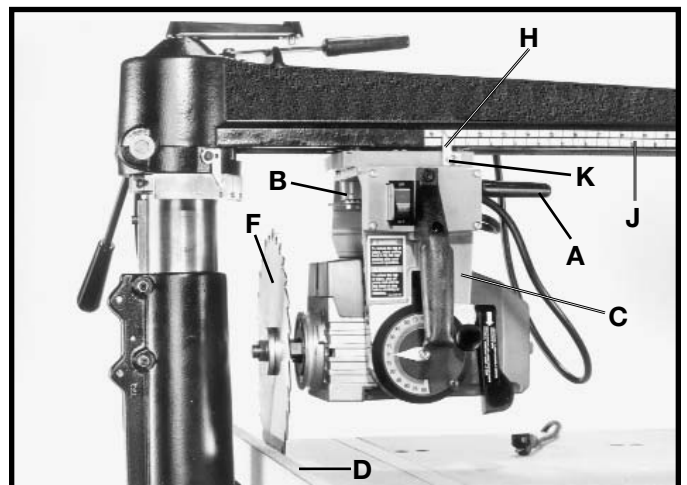
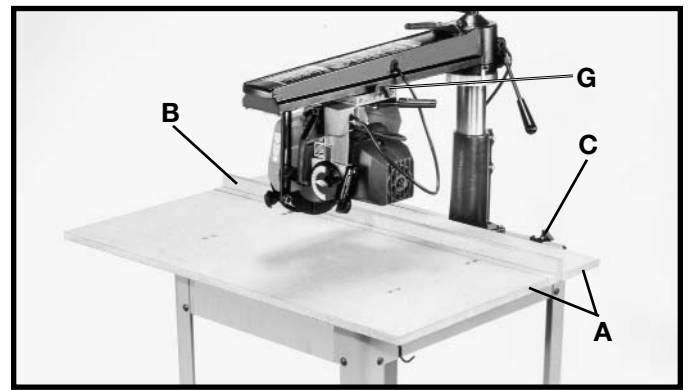
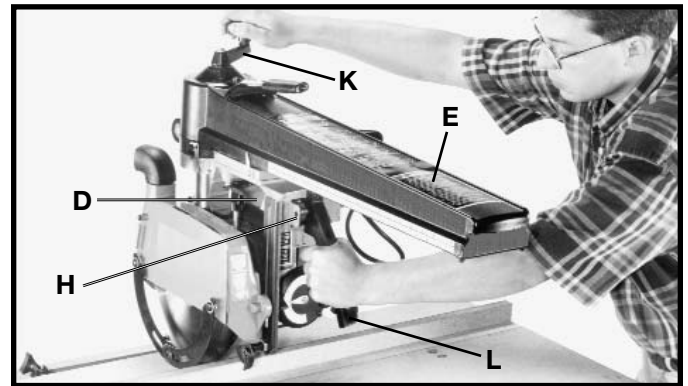
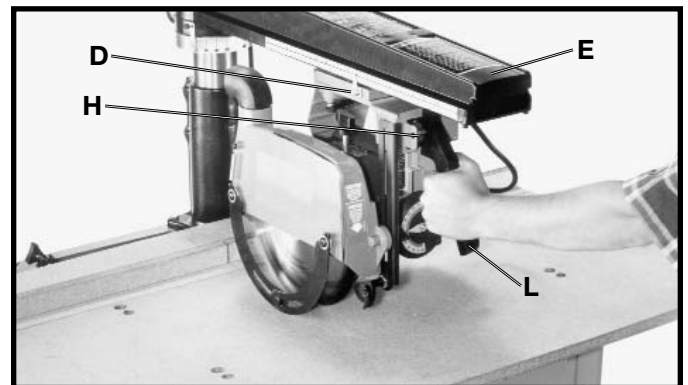

Fig. 43
Fig. 48
Fig. 49
Fig. 50
2. Loosen yoke clamp handle (A) Fig. 43. Release yoke index by pressing yoke indexing release lever (B) up or down, and rotating cutting-head (C) to the in-rip position as shown. Tighten yoke clamp lever (A).
3. Position fence (D) Fig. 43, at the rear of table as shown.
4. Loosen cutting-head clamp knob (G) Fig. 48 and slide cutting-head (C) Fig. 43, to rear of track arm until saw blade (F) is flush against fence (D).
5. Tighten cutting-head clamp knob (G) Fig. 48 and adjust pointer (H) Fig. 43, if necessary, to “zero” mark on lower scale (J) by loosening screw (K). After adjustment is made, tighten screw (K).
1. Assemble table boards (A) Fig. 48, and fence (B) as shown and secure in place with table clamps, one of which is shown at (C).
2. Return cutting-head (D) Fig. 49, to rear of track arm (E), and tighten cutting-head clamp knob (G) Fig. 48. Make sure switch (H) Fig. 49, is in the “OFF” position and connect saw to power source.
3. While holding cutting-head handle (L) Fig. 49 firmly, turn switch (H) “ON” and lower track arm (E) by turning elevating handle (K) as shown. Lower saw blade until it cuts into the table surface approximately 1/16” deep. Then stop turning elevating handle (K).
4. While still holding cutting-head handle (L) Fig. 50 firmly, loosen cutting-head clamp knob (G) Fig. 48, and slowly pull cutting-head (D) Fig. 50, toward the front of the track arm (E) as shown, until travel stops. Then turn switch (H) “OFF”.